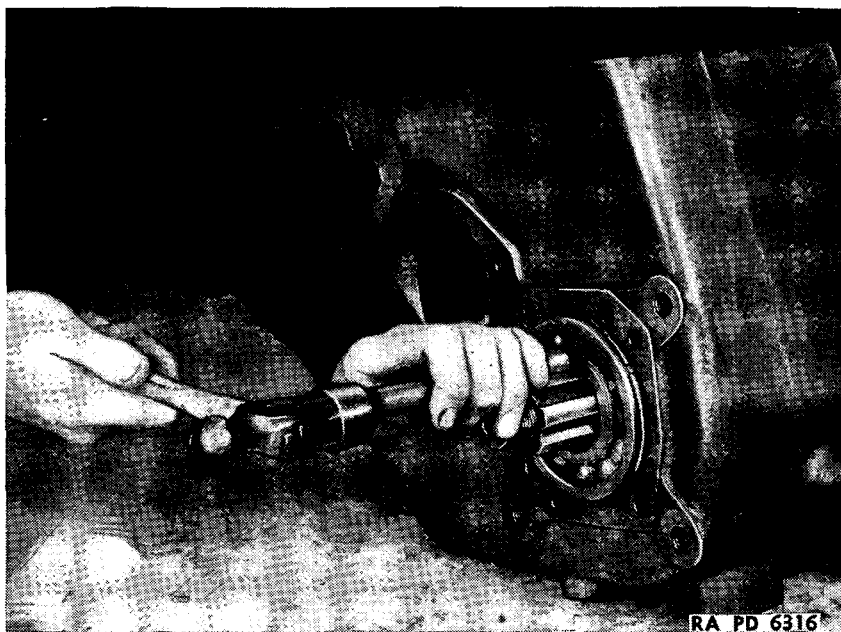
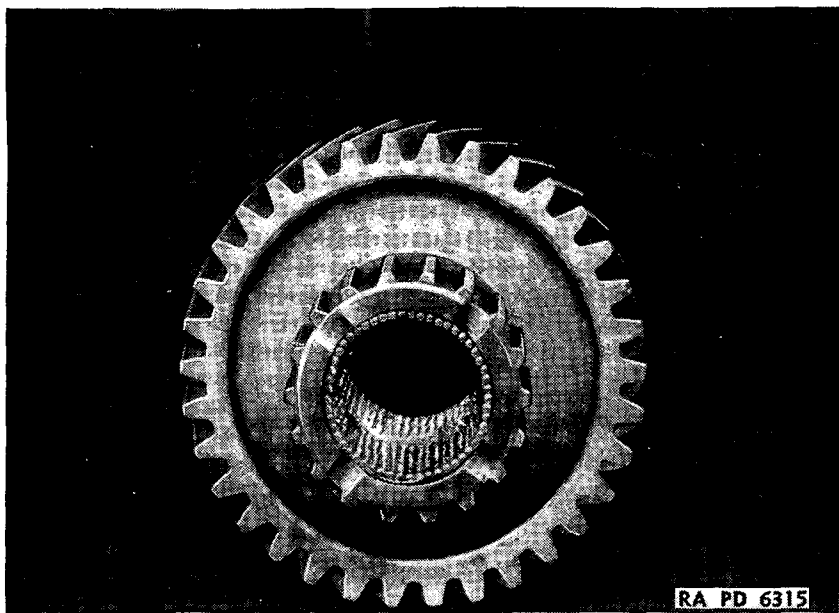

FIGURE 132.—Transfer case mainshaft rear bearing replacement.
FIGURE 133.—Needle bearings installed in intermediate shaft underdrive gear.
(6) Replace mainshaft rear bearing—brass drift, hammer, screw driver, pliers. Replace bearing snap ring onto bearing and drive bearing into position in case (fig. 132). After rear bearing is installed, hold it in place and drive front end of mainshaft until shaft is fully engaged in underdrive gear. Replace front pocket bearing on front end of mainshaft.
(7) Replace mainshaft rear bearing cap—oil seal replacer, hammer, $\frac{5}{8}$ -inch socket wrench. Replace oil seal in cap and replace rear bearing cap, gasket, and four cap screws and lock washers.
(8) Replace intermediate shaft underdrive gear needle bearings. Grease bore of the intermediate shaft underdrive gear with a heavy and stiff grease and assemble 106 long needle bearings in two rows with needle bearing spacer between rows (fig. 133).